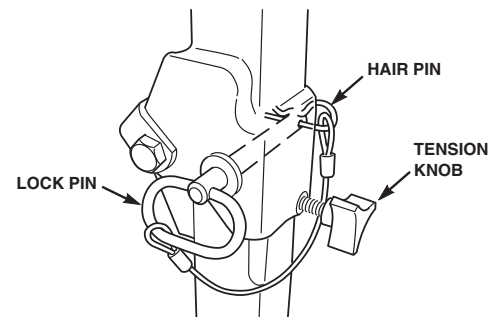

Figure 2-2 ROPS Hinge
2. Remove the hairpin cotter pins and remove the (2) two lock pins. See Figure 2-2.
6. Install the two (2) lock pins through the hole, secure with the two (2) hairpin cotter pins and tighten the tension knobs. See Figure 2-2. Remove the seat belt from the retainer brackets.